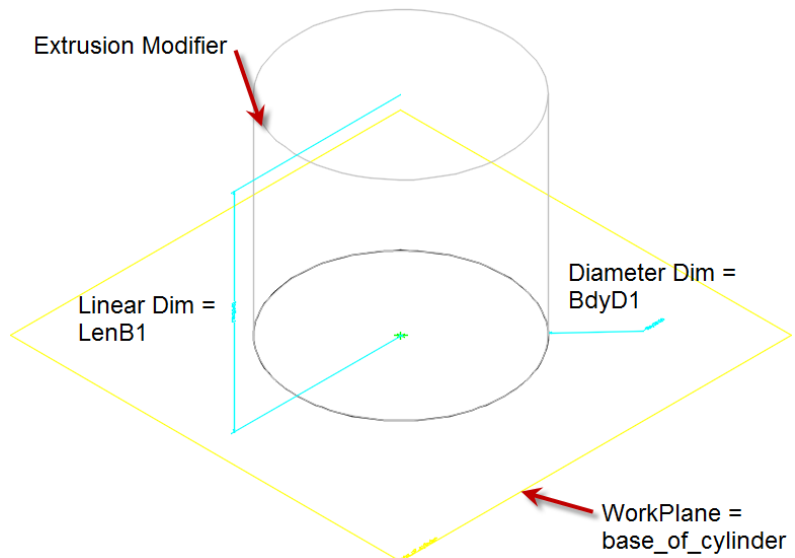

Figure 12 – Cylinder Example
5. In the main drawing window use the ViewCube to select the South West Isometric view, you should see something similar to Figure 12 – Cylinder Example.